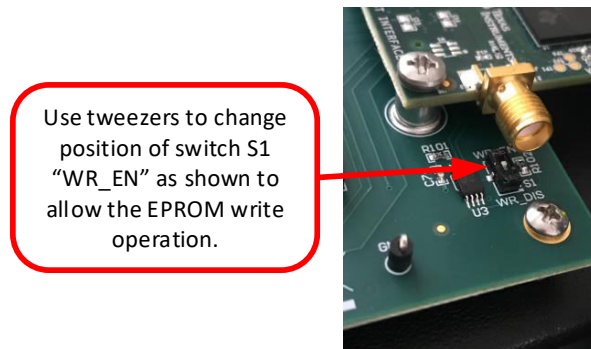

Figure 6-3. Enable EEPROM for Writing
2. Enable the EEPROM for writing. This process is done by changing switch S2 to the *WR_EN* (top) position using tweezers. Figure 6-3 details this process.